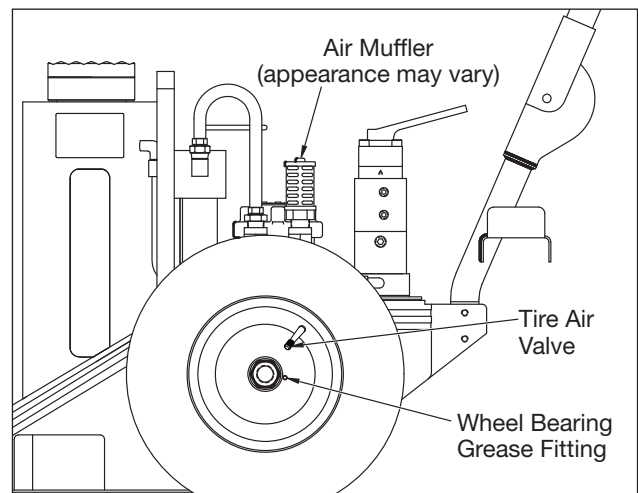

Figure 8, Additional Maintenance Items
6.5 Air Muffler (See Figure 8)
6.6 Wheels and Tires (See Figure 8)